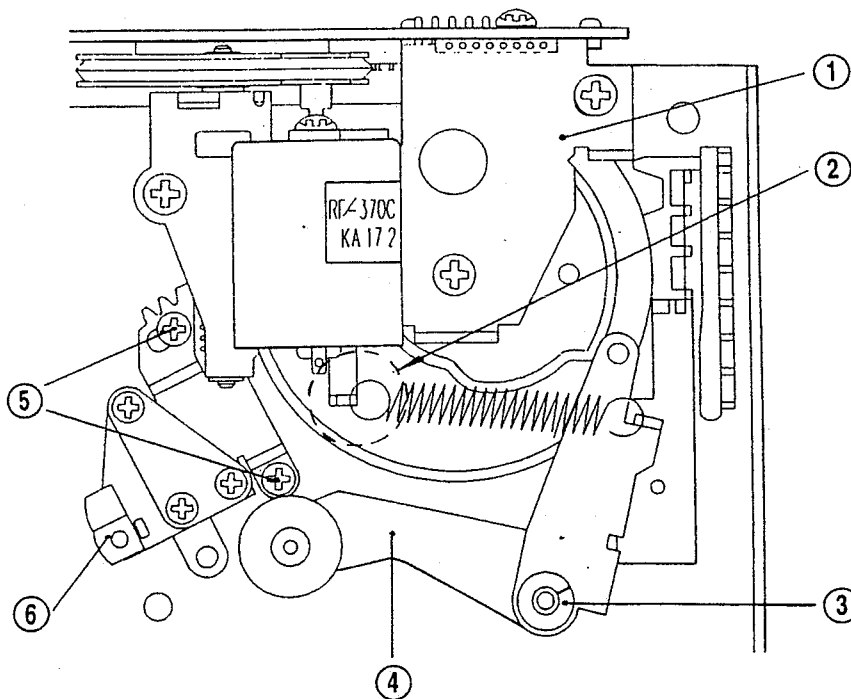

Fig. 3-4
4. REPLACEMENT OF THE PINCH LEVER TOTAL ASS'Y (See Fig. 3-4)
5. REPLACEMENT OF THE A/C HEAD TOTAL ASS'Y (See Fig. 3-4)